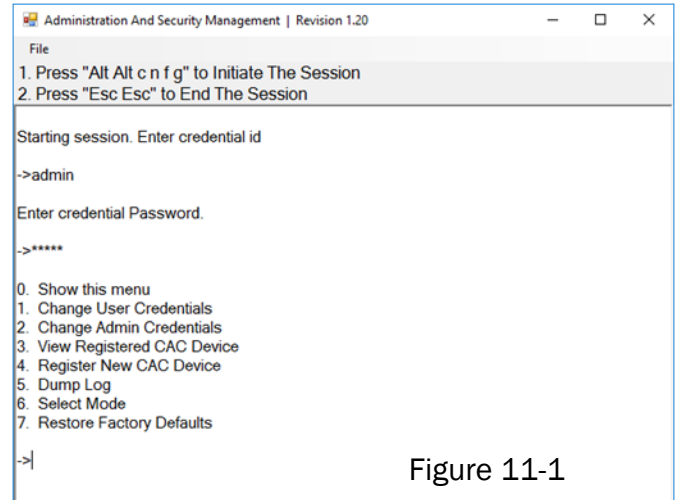

Figure 11-1
5. Request a Log Dump by selecting option 5 in the menu. (Shown in Figure 11-1)
5. Select option 7 from the menu on your screen and press enter. (Menu shown in Figure 11-1)